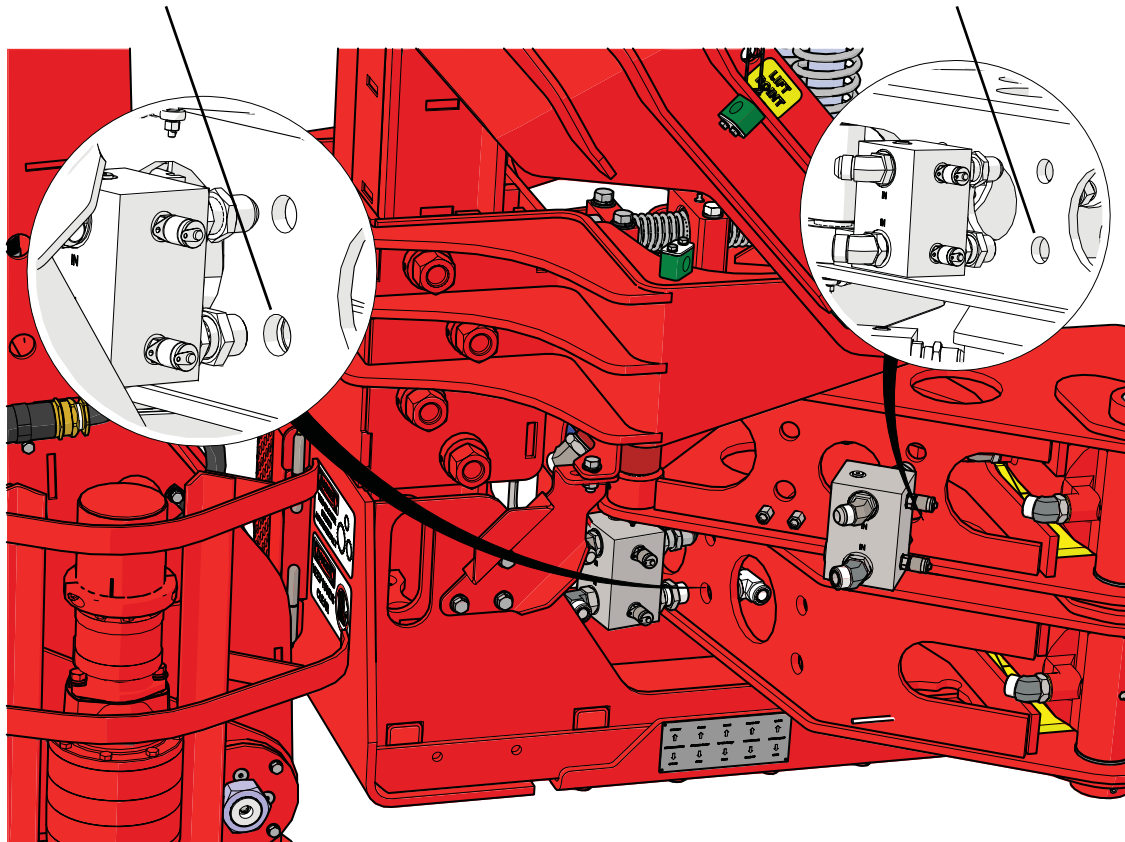

Figure 2: Lower Bulkhead Holes
10. Grind out both of the lower bulkhead holes on the upper and lower tongs for the PO check valve connections to increase the diameter by approximately 1/8" to accommodate the larger ORFS fitting; the specified dimension for the new hole diameters is 1.196". (See Figure 2 below.)